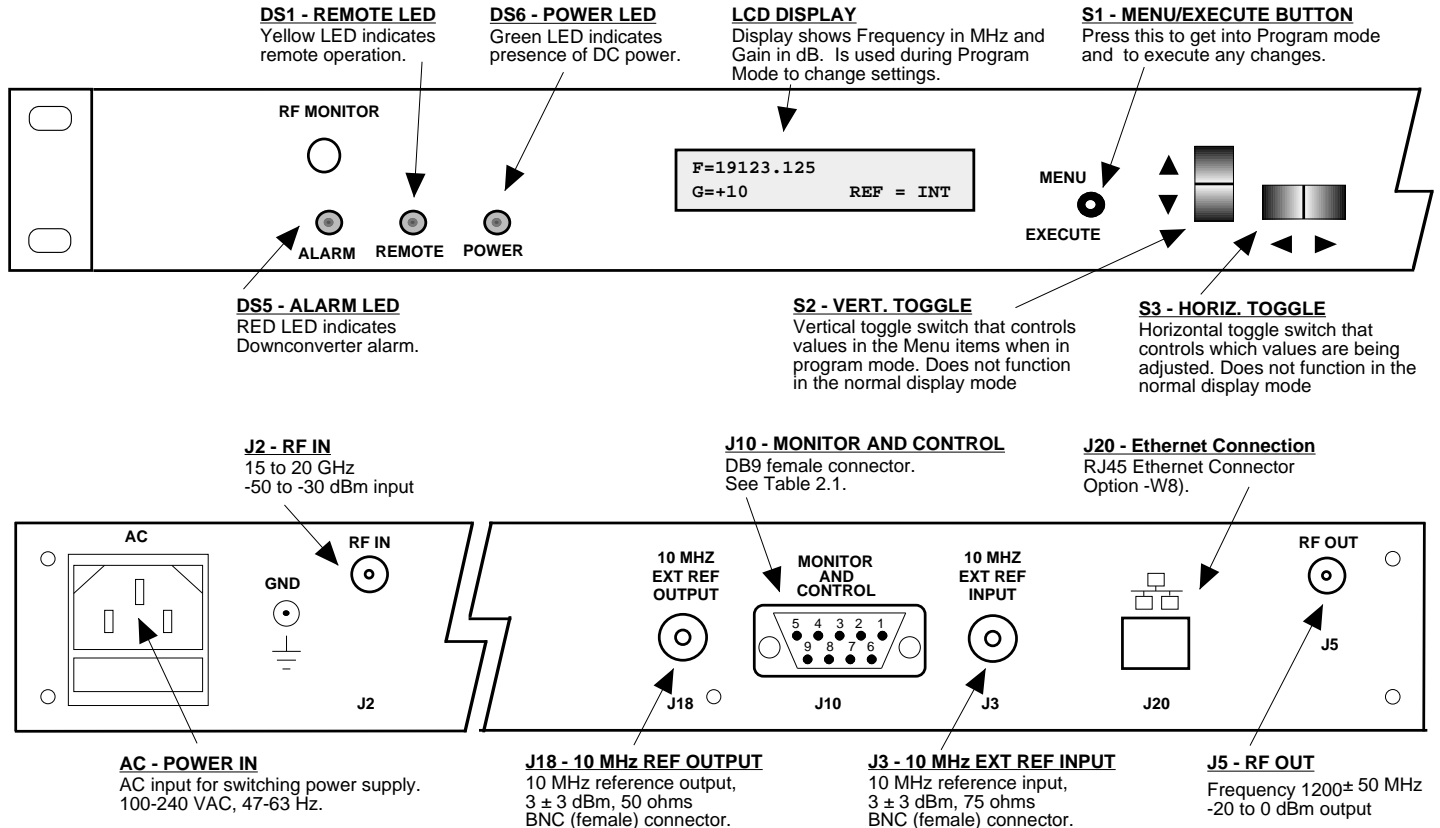

Figure 2.3 Front & Rear Panel Controls & Indicators
2.3 Front & Rear Panel Controls and Indicators - Figure 2.3 shows the front and rear panel controls and indicators.
1. Connect a -50 dBm to -30 dBm signal, to RF IN, J2 (Figure 2.3, page 9)
7. Be sure DS6 (green, DC Power) is on and DS2 (red, Alarm) is off (Figure 2.3, page 9).